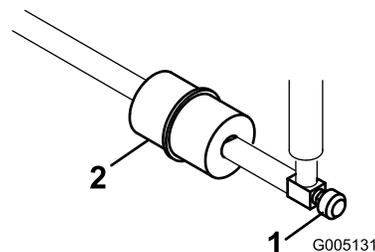

Figure 44
An in-line filter is incorporated into the fuel line between the fuel tank and carburetor (Figure 44).
- Close the fuel-shutoff valve, loosen the hose clamp on the carburetor side of filter, and remove the fuel line from the filter (Figure 44).
- Place a drain pan under the filter, loosen the remaining hose clamp and remove the filter (Figure 44).